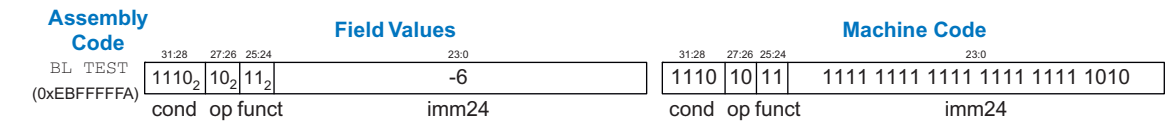

Figure 6.26 BL machine code
Solution: Figure 6.26 shows the machine code for the branch and link instruction (BL). Its branch target address (0x8040) is six instructions behind PC + 8 (0x8058), so the immediate field is -6.